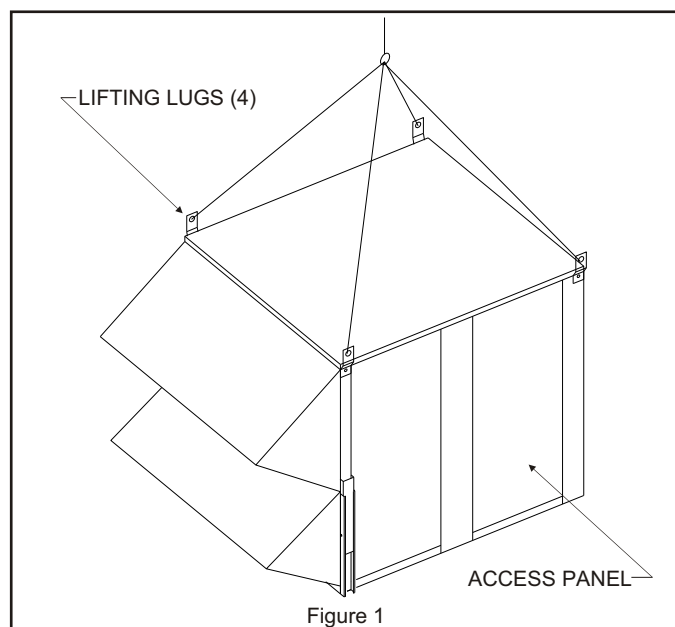

Figure 1
2. Remove crating. Then remove access panel to retrieve box assembly. **See Figure 1.** Replace access panel.
4. Lifting lugs are supplied with the unit. Loosen machine bolts and rotate lifting lug as shown in **Figure 1.**